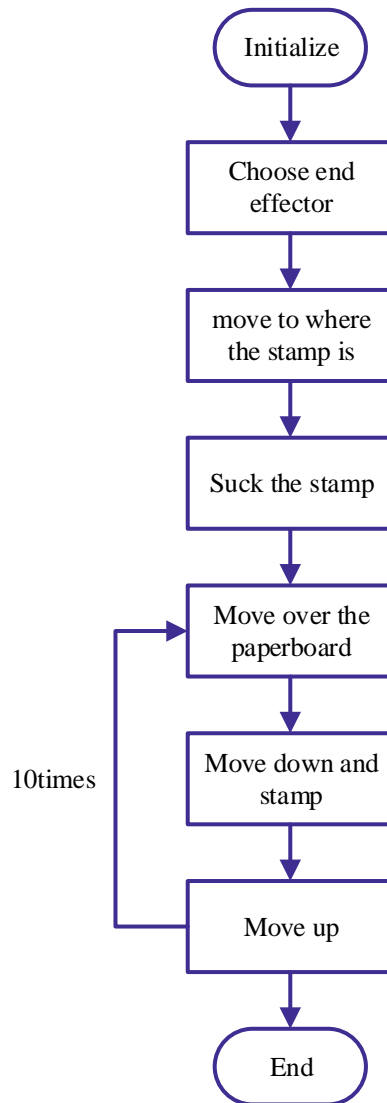

Figure 1.16 10-time robotic arm stamping flowchart
(2) Design Program
Step 1: Compare to the single-stamping flowchart of the robotic arm. According to the observations, read the 10-time robotic arm stamping flowchart, as shown in Figure 1.16.